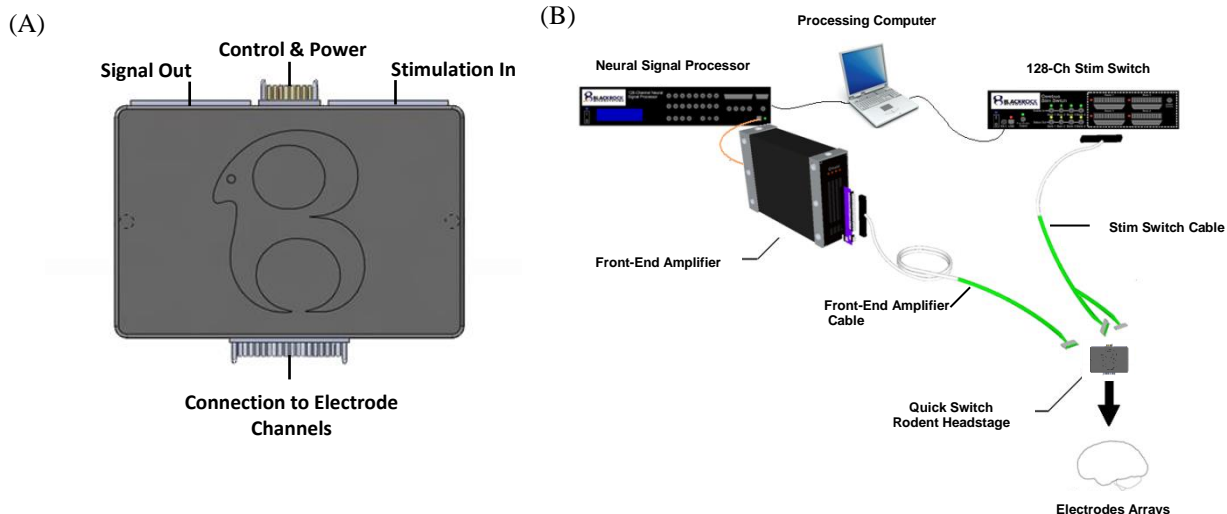

Figure 3-1: (A) Headstage Connections (B) Assembly
3. Connect the Stim Switch Cable to the Stimulation and Control/Power connectors on the headstage (Figure 3-1). The wording on the connector should face toward the front cover of the headstage (i.e. away from the LEDs).
6. Connect the Front-End Amplifier Cable to the Signal Out connector on the headstage (Figure 3-1). The wording on the connector should face toward the front cover of the headstage enclosure (i.e. away from the LEDs)